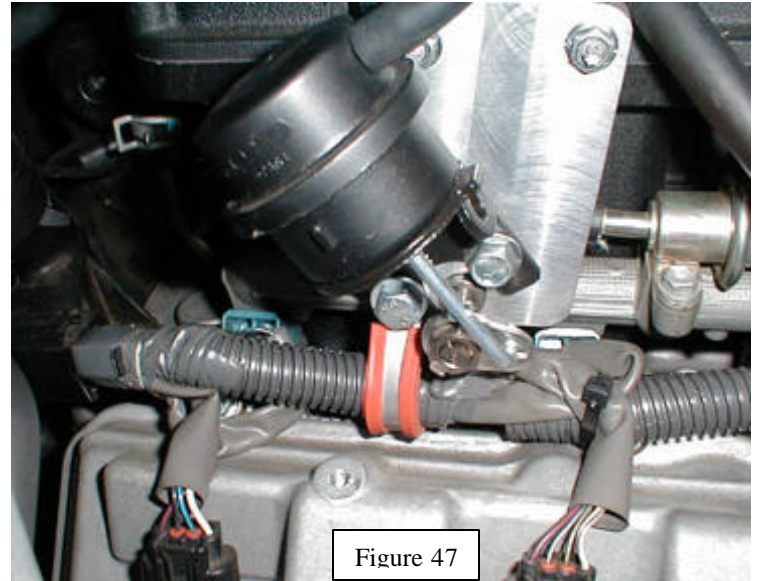

Figure 47
14. Use supplied #16 Adel clamp to secure wire loom to bypass actuator bracket. (Figure 47). Torque bolt to 18 N-m (13 ft-lbf).